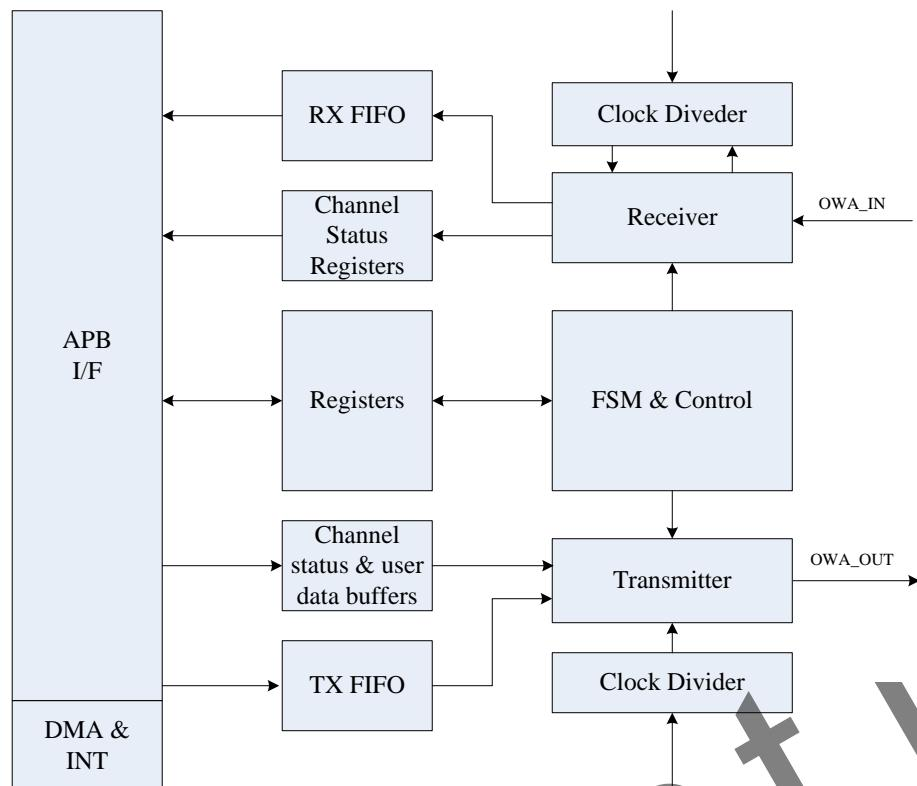

Figure 7-13. OWA Block Diagram
**Figure 7-13** shows the OWA block diagram.